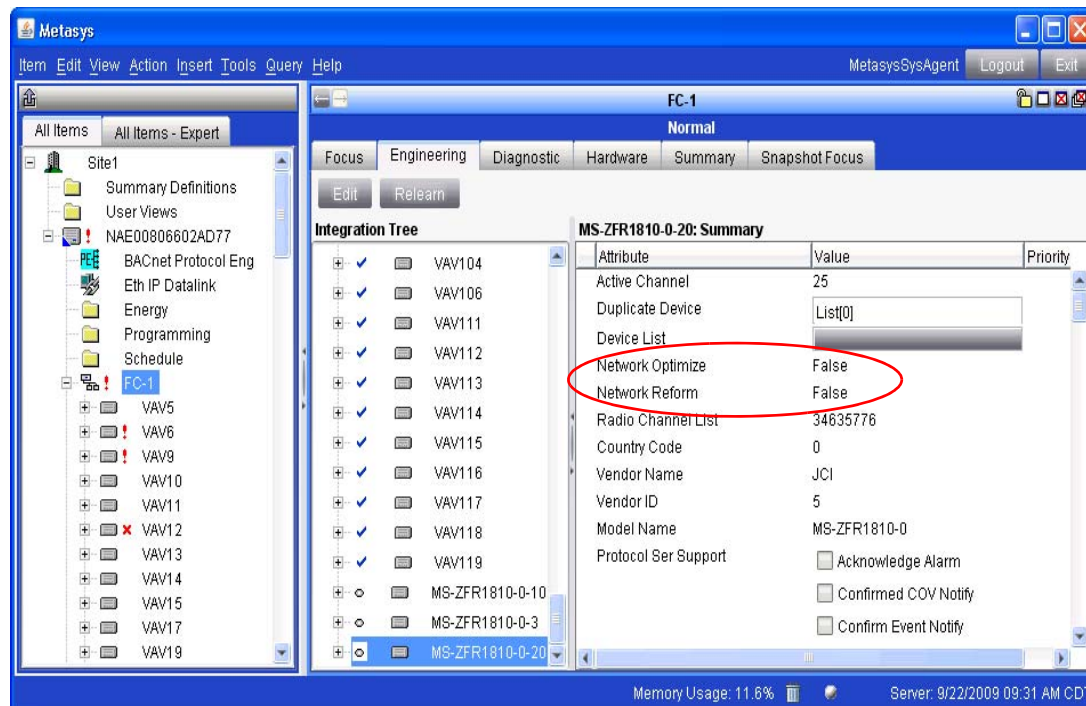

Figure 19: Optimizing/Reforming a Network from the Metasys Site Management Portal
- Expand the Field Bus and the MS-ZFR1810-0 Coordinator items as shown in Figure 19. Open the details window for the **ZIGBEE** item.